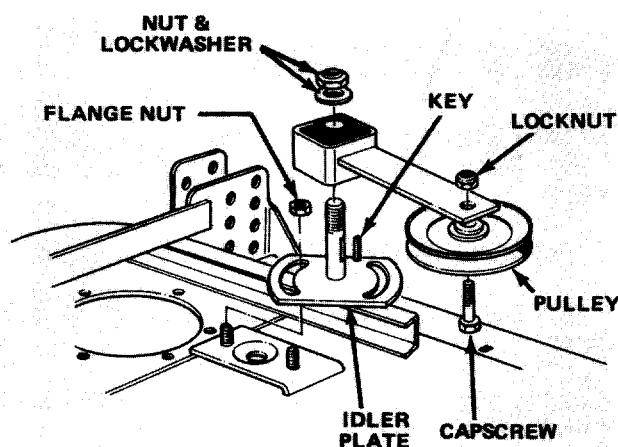

Figure 39
3. Loosen two nuts securing idler plate in place (Fig. 39). Belt tension will be released when nuts are loosened.
4. Remove large nut and flatwasher retaining idler arm on idler plate shaft (Fig. 39). Slide arm off shaft and account for the square key.
5. Remove capscrew and locknut securing idler pulley and arm together (Fig. 39).
5. Remove two flange nuts, holding slotted idler plate in place (Fig. 39).
3. Loosen two nuts securing idler plate so tension of the idler pulley against the belt is released (Fig. 39).